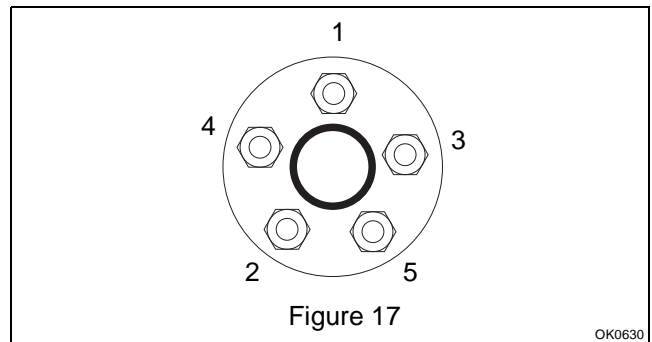

Figure 17
15. Tight lug nuts using the pattern shown in Figure 17.